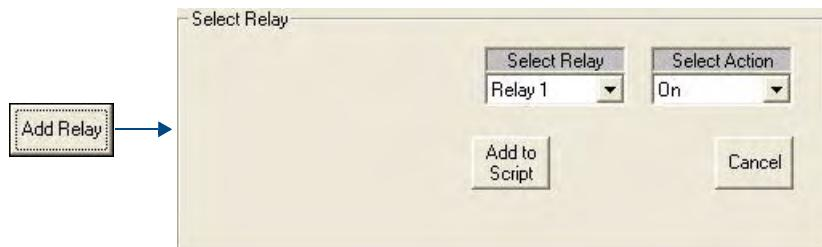

FIG. 90 Select Relay window
2. Click the **Add Relay** button in the Command Bar to invoke the *Select Relay* window (FIG. 90).